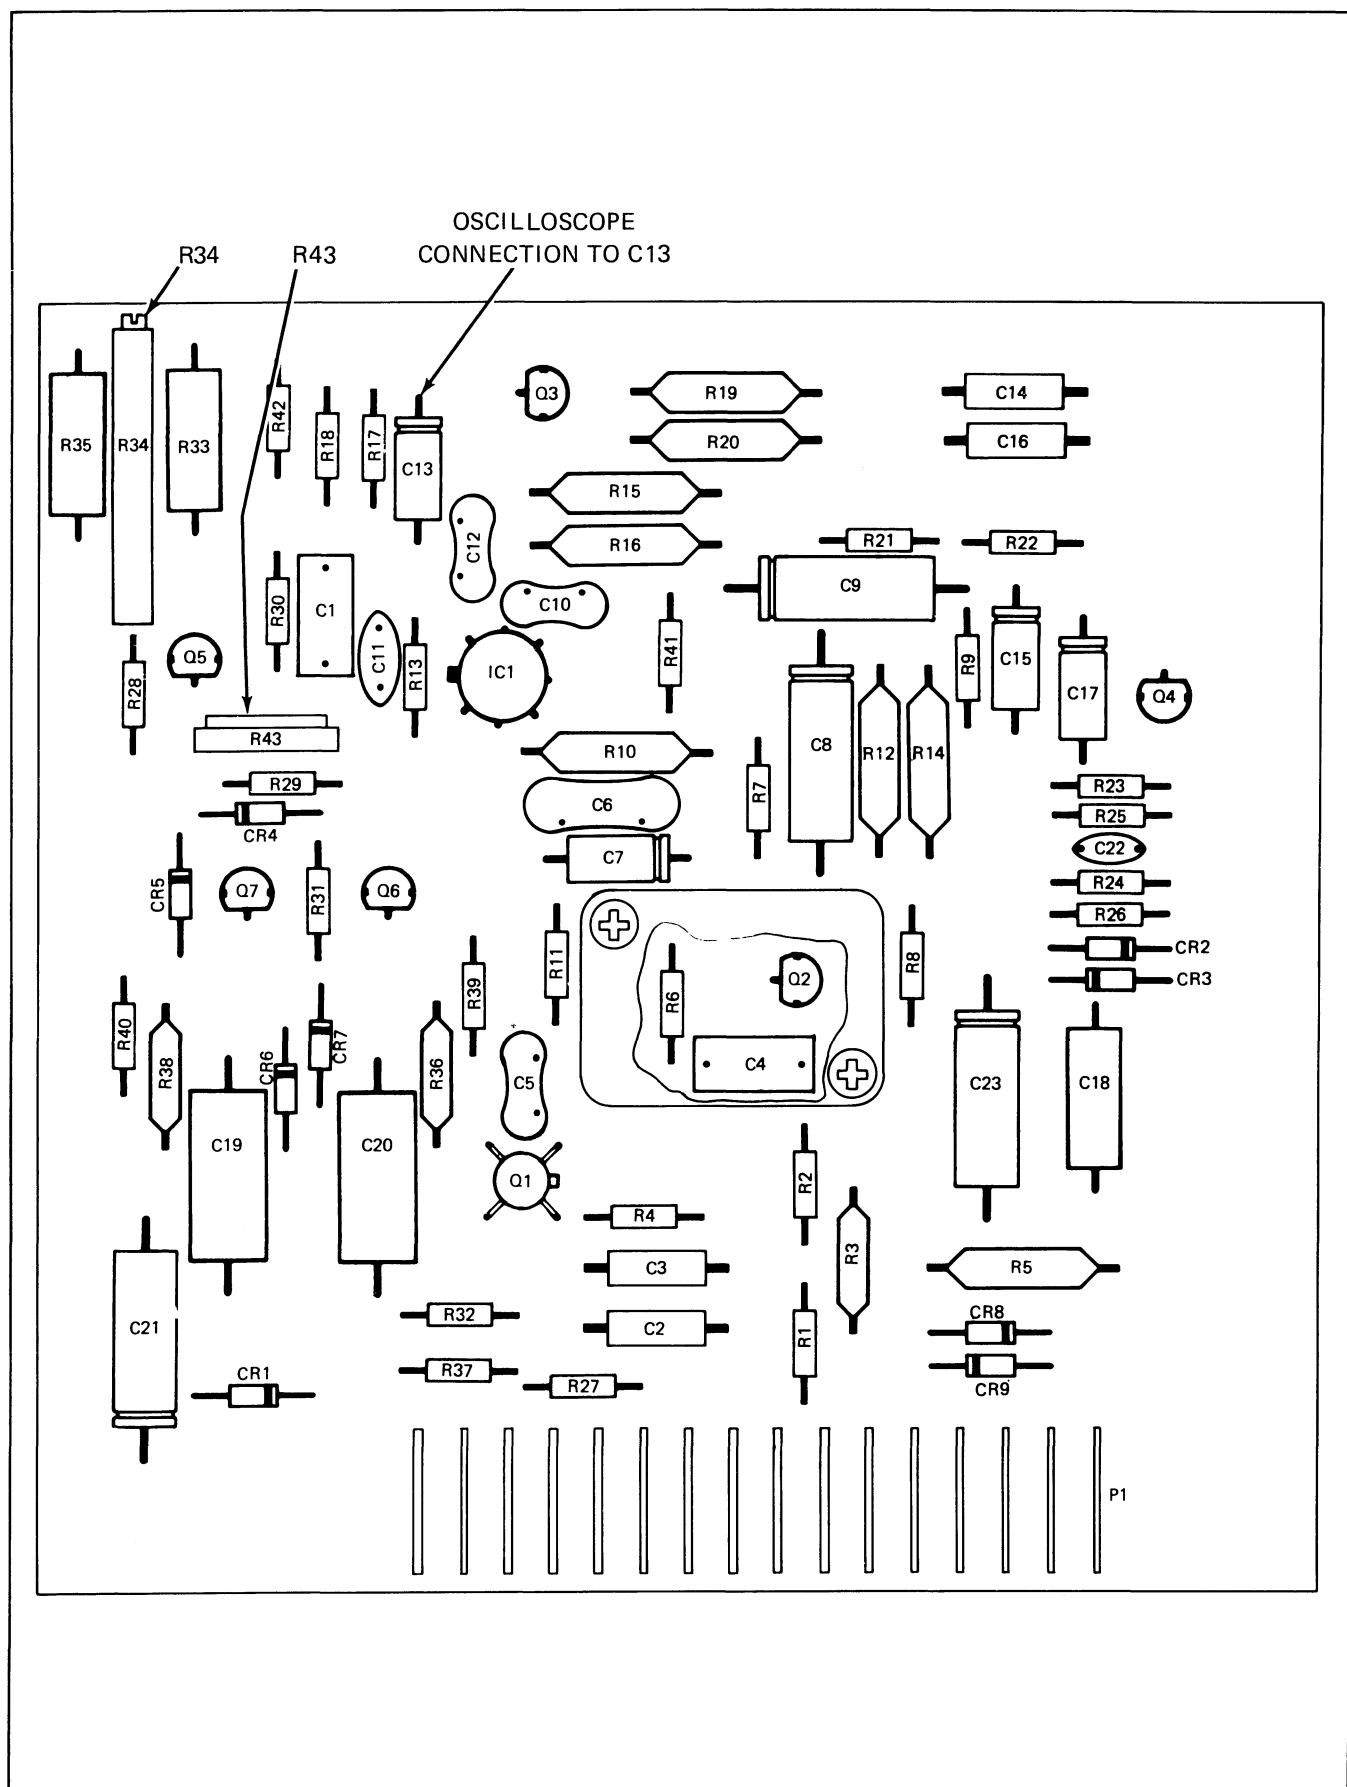

Figure 4-9. Chopper Amplifier Component and Test Point Locations
3. On the Chopper Amplifier, short pin 6 to pin 12. (See Figure 4-9.)
4. On the Chopper Amplifier, adjust R43 (Chopper Drive Adjust) fully clockwise (CW). (See Figure 4-9.)
5. Referring the Figure 4-9, connect the oscilloscope through an X10 probe to the positive side of C13. Connect the probe common to chassis.